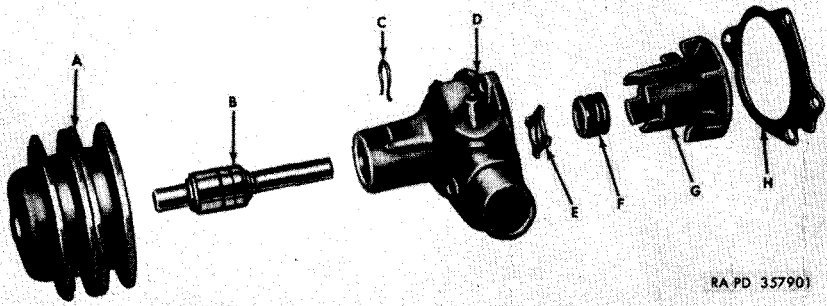
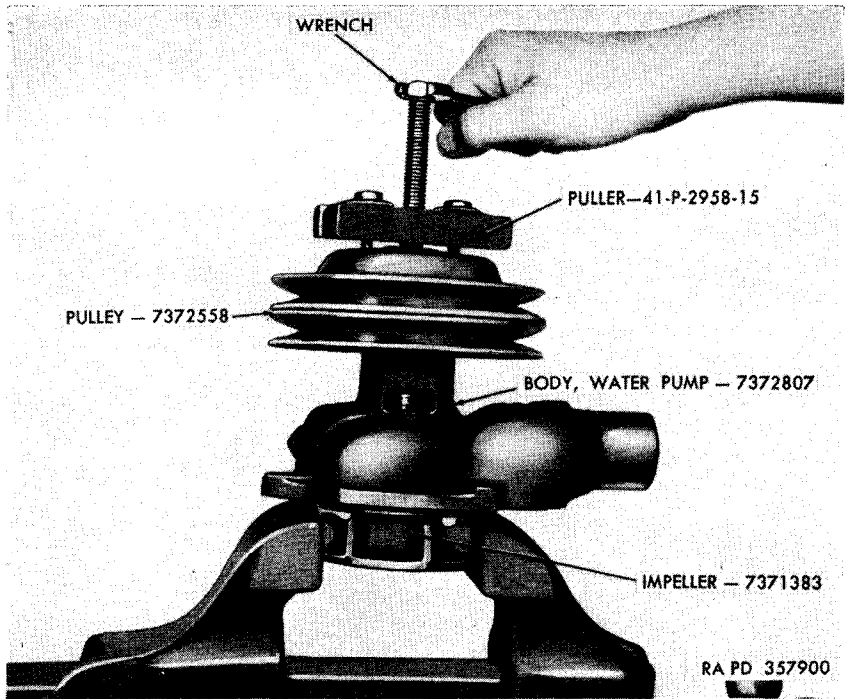
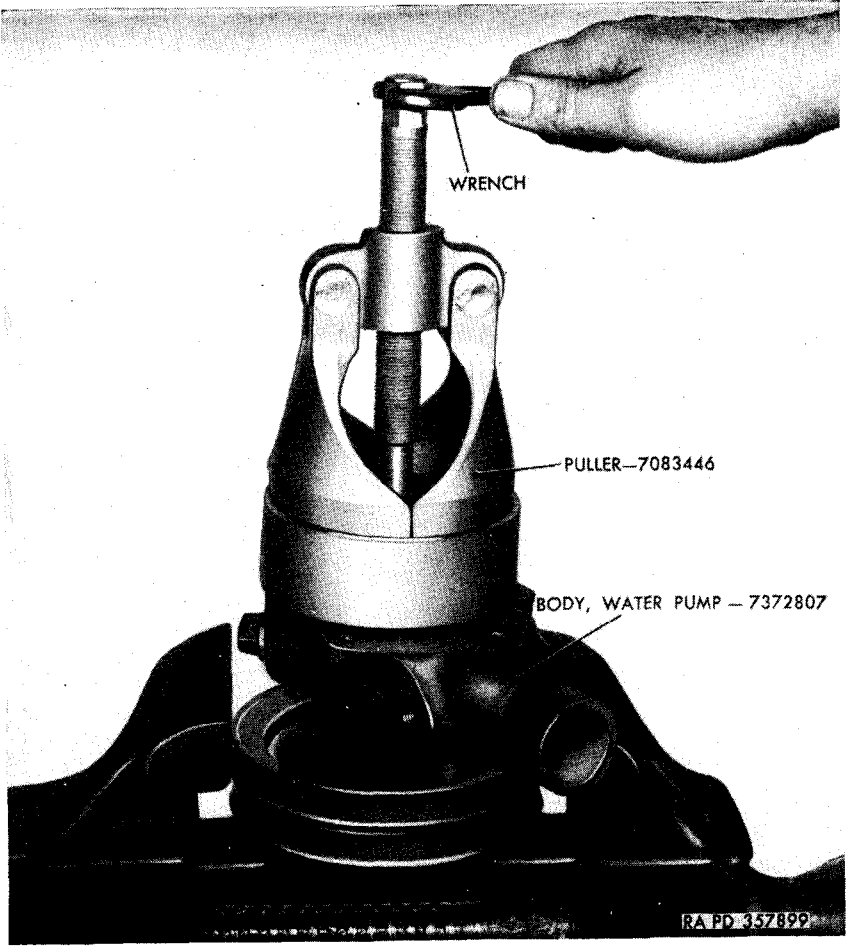
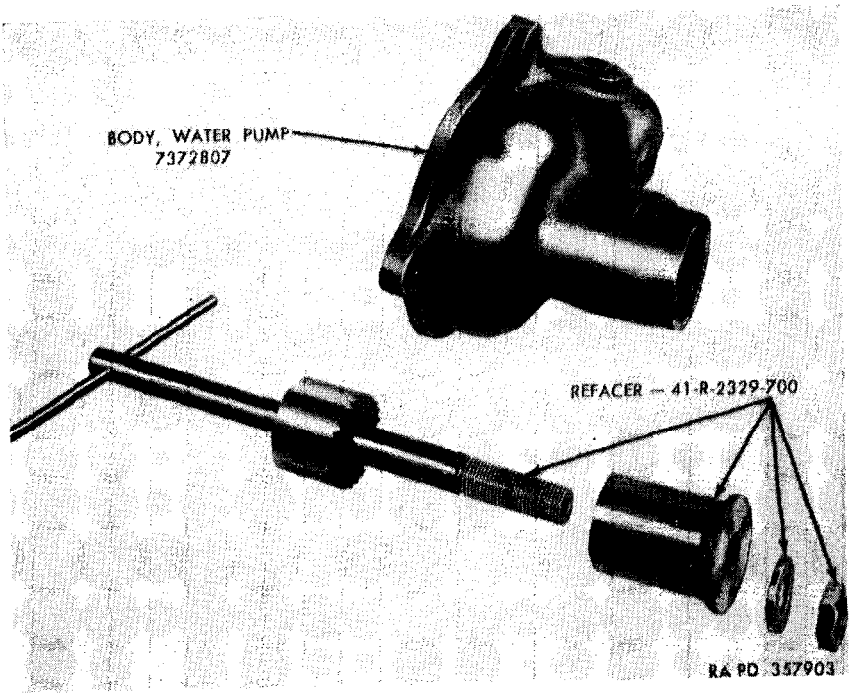

Figure 47. Water pump—exploded view.
Figure 48. Removing fan and water pump pulley using puller 41-P-2958-15.
Figure 49. Removing water pump impeller using puller 7083446.
Figure 50. Water-pump refacing tool 41-R-2329-700.
Pull the water pump bearing retaining ring from the water pump (fig. 47). Remove the water pump impeller using puller 7083446 (fig. 49). Remove the water-pump seal and washer. Press out the water pump bearing and shaft assembly and water pump pulley from the water pump body as a unit. Remove the water pump pulley (fig. 48) from the water pump bearing and shaft assembly using puller 41-P-2958-55).
a. **WATER PUMP BODY** (fig. 47). A cracked or damaged water pump body must be replaced. Reface seat using refacer 41-R-2329-700 (figs. 50 and 51).
b. **WATER PUMP IMPELLER** (fig. 47). A water pump impeller that is cracked or that has a broken fin must be replaced.
c. **WATER PUMP PULLEY** (fig. 47). A distorted or damaged water pump pulley must be replaced.
d. WATER-PUMP BEARING AND SHAFT ASSEMBLY (fig. 47). Rotate the water pump bearing; if the bearing binds or has a tendency to stick, it must be replaced. Bearings that have side or end play, must be replaced.
Press the front (short) end of the water-pump bearing and shaft assembly into the water pump pulley (fig. 47). Press the pulley and bearing and shaft assembly into the front end of the water-pump body until the groove on the bearing is alined with the small slot in the body. Dip a new seal assembly and seal washer in hydraulic brake fluid and install them in the water-pump impeller. Press the shaft into the impeller until the end of the shaft is flush with the end of the impeller. Install the bearing retaining ring.